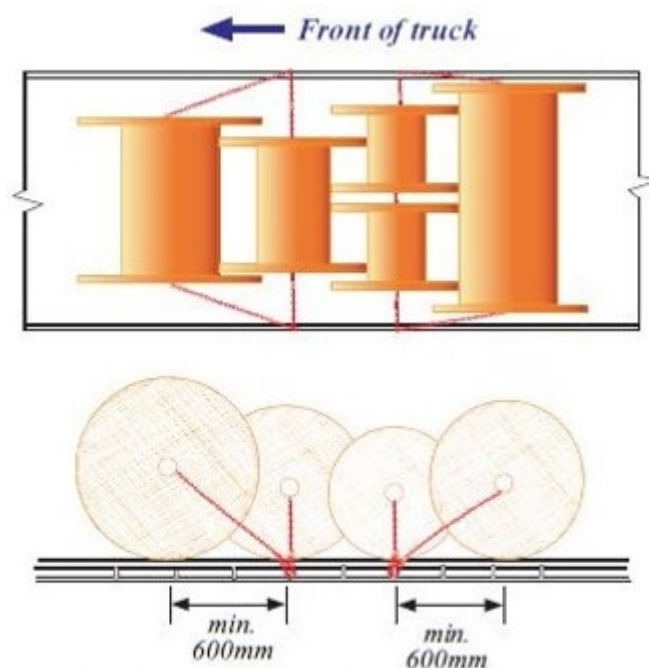

Figure 6: An example of a group of interlocked empty reels with the largest reels at the front and rear
- ✓ Empty reels not in racks **MUST** be interlocked into groups – See Figure 6 below.
- ✓ Largest reels to be at the front and rear of each group – See Figure 6 below.
- ✓ Each group of reels is to have one chain angled back a minimum of 600mm from the centreline on the front reel and one chain angled forward on the back reel – See Figure 6 below.